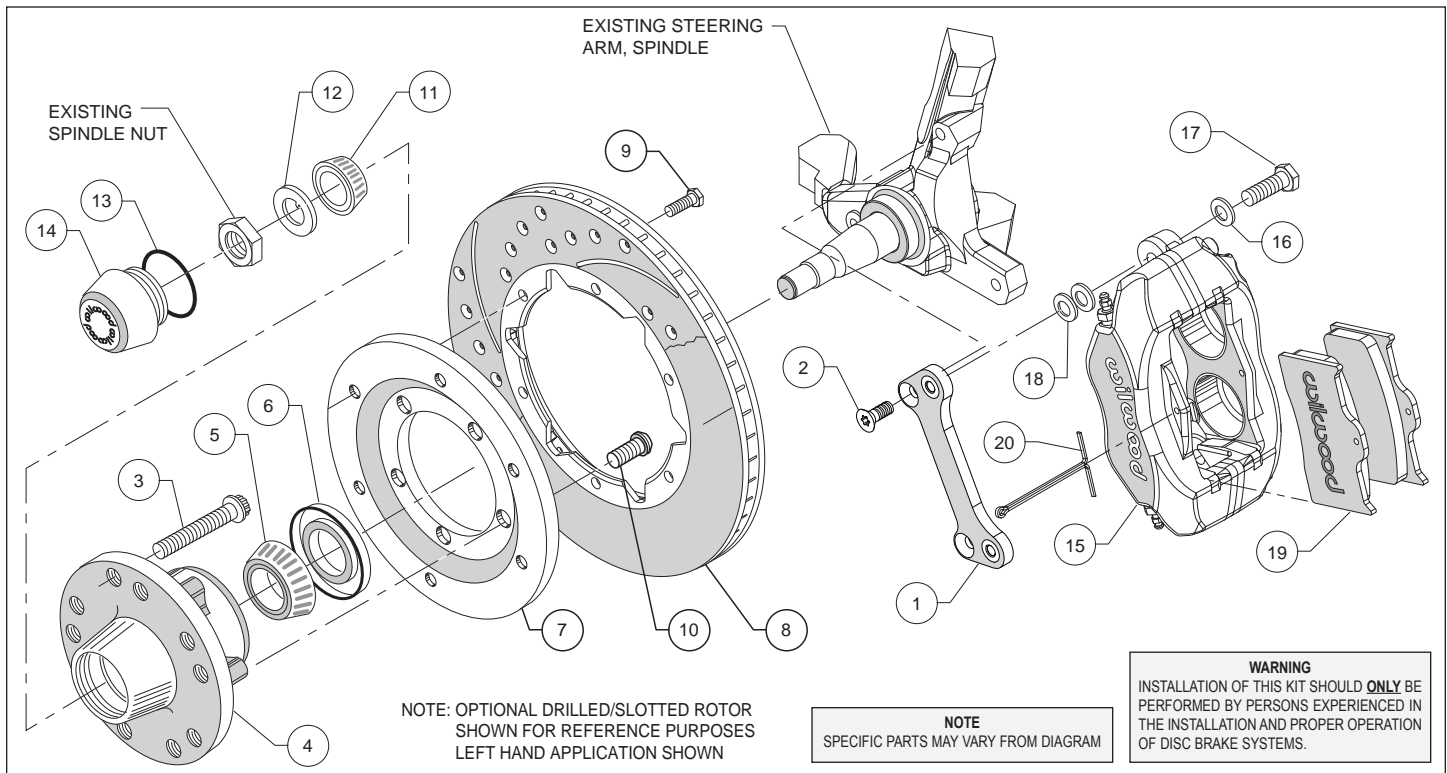
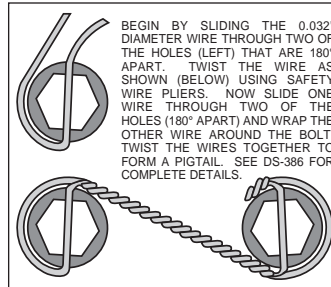
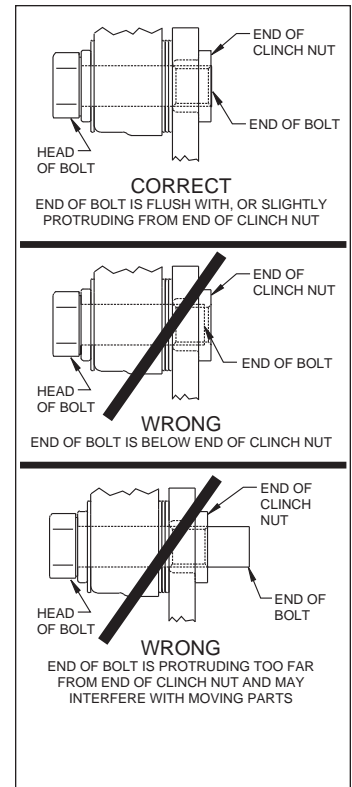

Figure 2. Typical Installation Configuration
Figure 4. Safety Wire Diagram
Figure 5. Clinch Nut Engagement Diagram
**Assembly Instructions** (numbers in parenthesis refer to the parts list on the preceding page, and Figure 2 above): **CAUTION:** All mounting bolts must fully engage insert nuts. Be sure to check that all bolts are either flush or protruding through flanged side of clinch nut after shimming, Figure 5.
- Align caliper mounting bracket (1) with the corresponding holes, to the face of the spindle and attach using bolts (2), as shown in Figure 2 and Photo 1. Temporarily tighten the mounting bolts. Ensure that the flanged heads of the clinch nuts in the bracket are facing outboard, Photo 1. **NOTE:** The bracket must fit squarely against the mounting points on the spindle. Inspect for interference from casting irregularities, machining ridges, burrs, etc. Remove bolts one at a time, apply red *Loctite*® 271 to threads, and torque to 40 ft-lb.
- Orient the rotor (8) and the rotor adapter (7) as shown in Figure 2 and Photo 4. Attach the rotor to the adapter using bolts (9). Using an alternating sequence, apply red *Loctite*® 271 to the threads, and torque to 180 in-lb. Safety wire bolts (9) using standard 0.032 inch diameter stainless steel safety wire as shown in Figure 4. Refer to Wilwood's data sheet DS-386 (available at [www.wilwood.com/pdf/ds386.pdf](http://www.wilwood.com/pdf/ds386.pdf)) for complete safety wire installation instructions.
- Mount the adapter/rotor assembly (7/8) to the hub (4) using bolts (10), as shown in Figure 2 and Photo 5. Using an alternating sequence, apply red *Loctite*® 271 to the threads, and torque to 55 ft-lb.
- NOTE:** Please reference the caution statement at the beginning of the assembly instructions. Mount the caliper (15) onto the caliper mounting bracket (1) using bolts (17) and washers (16), as shown in Figure 2. Initially place two .035" thick shims (18) on each bolt between the caliper and the bracket, Photo 8. Temporarily tighten the mounting bolts and view the rotor (8) through the top opening of the caliper. The rotor should be centered in the caliper, Photo 9. If not, adjust by adding or subtracting shims between the bracket and the caliper. Always use the same amount of shims on each of the two mounting bolts. **NOTE:** The end of each bolt must be flush with or slightly protruding from the head of the clinch nut, as shown in Figure 5. If necessary place spare shims between washer (16) and caliper mounting ear to achieve the proper clinch nut engagement. Once the caliper alignment and clinch nut engagement are correct, remove the bolts one at a time, apply red *Loctite*® 271 to bolt threads, and torque to 40 ft-lb. Safety wire the bolts as shown in Figure 4.